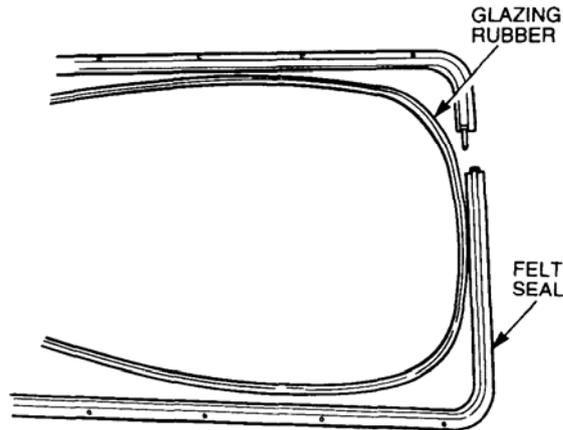

Figure 44 Glazing Rubber Removal
- i. If necessary, remove the felt seals (refer Figure 44).